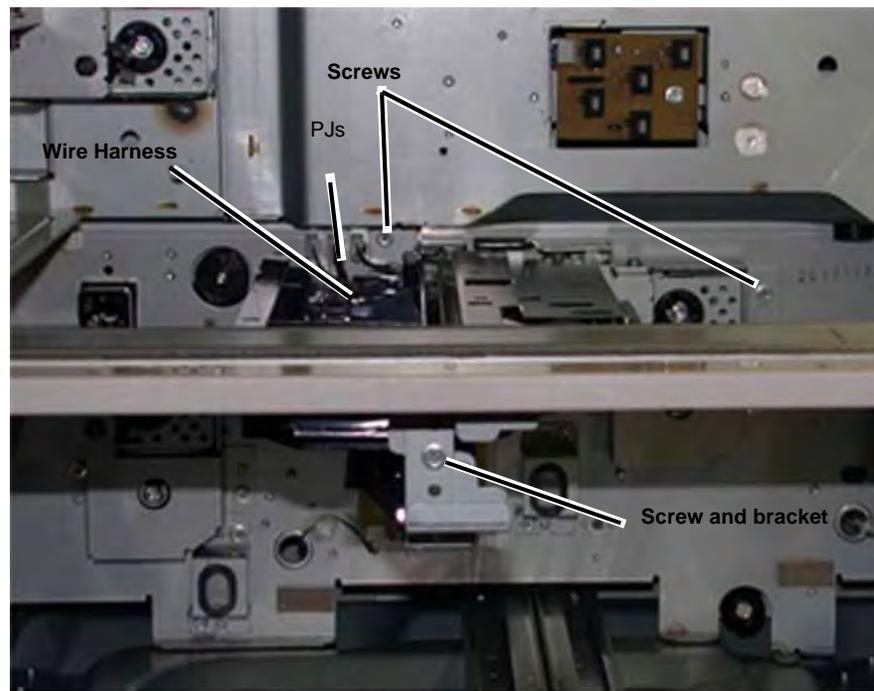

Figure 1 Removing Screws & P/J's
3. Remove Feeder 4 (Figure 1).
- b. Remove the rear mounting screws (2).